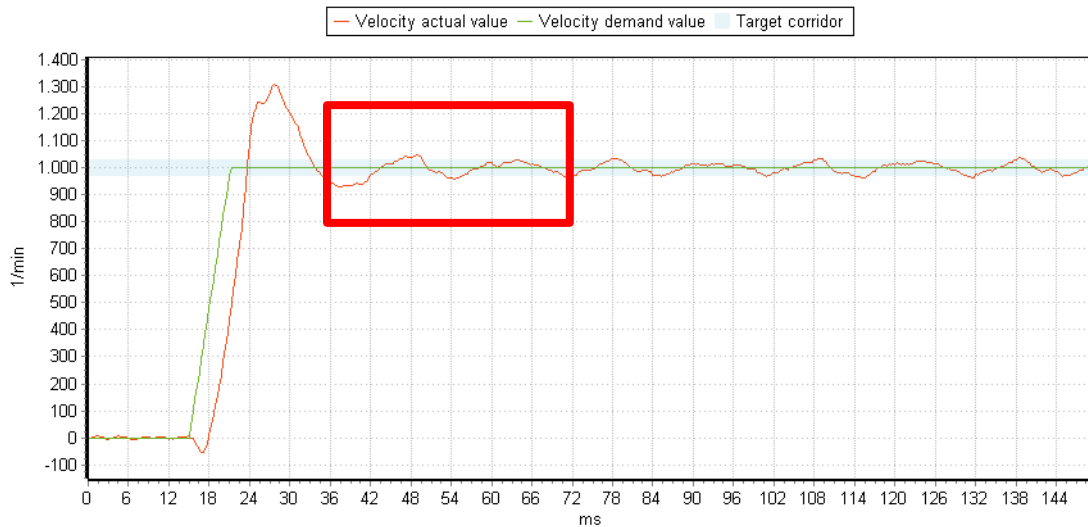

Figure 10: well-damped step response, 3268Bx4 with load disc of 60 gcm2 ( $K_J=2$ ),  $K_P = 2x = 4148 \text{ As e-4}$
- The second overshoot should be quite small (comparable to the remaining ripple) and the system should settle in the corridor afterwards as shown in figure 10.